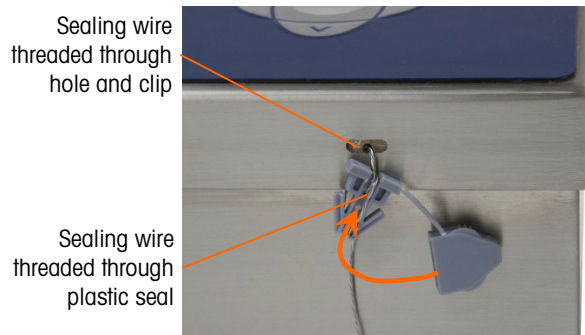

Figure A-77: Seal Threaded and Ready to be Closed
For sealing details of the IND246 terminal, refer to Figure A-77 and follow these steps:
3. Thread the end of the wire cable through the hole in the plastic seal (as shown in Figure A-77), remove any remaining slack in the wire, and snap the seal shut.